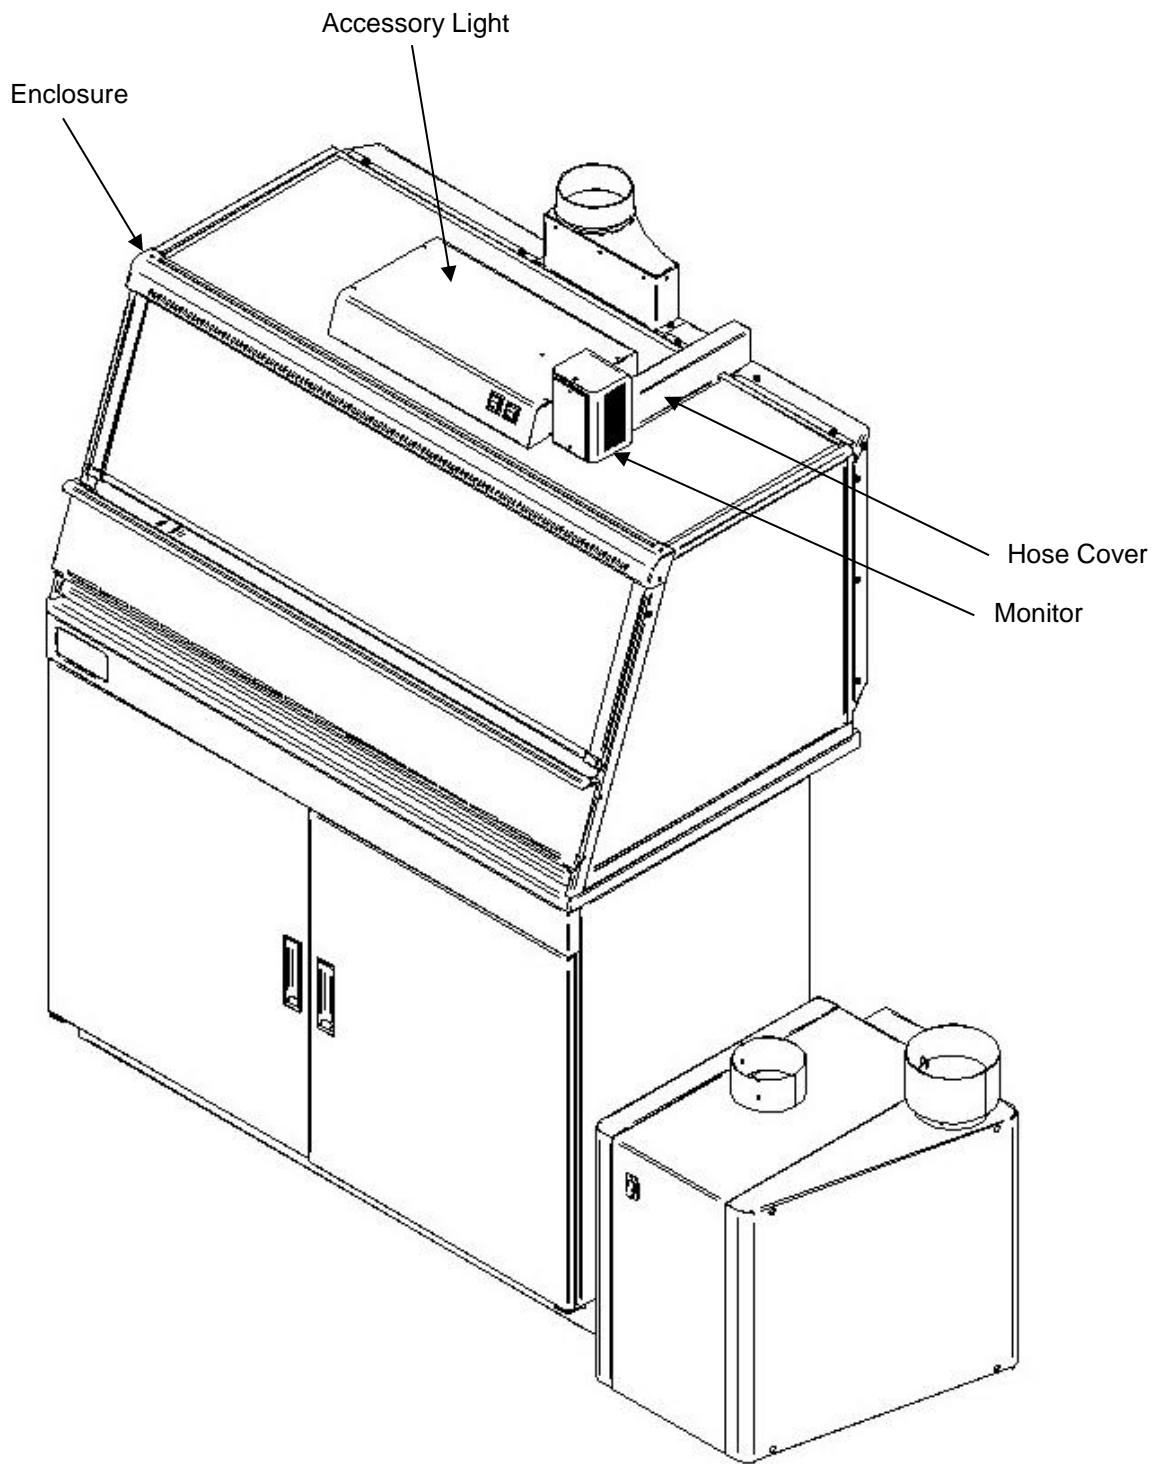

Figure 6-5
4. Secure the Guardian 500 Airflow Monitor to the enclosure with double stick tape as shown in Figure 6-5. The airway passage between the alarm module and the enclosure is now complete.
5. Locate the metal hose cover and install with double stick tape per Figure 6-5.